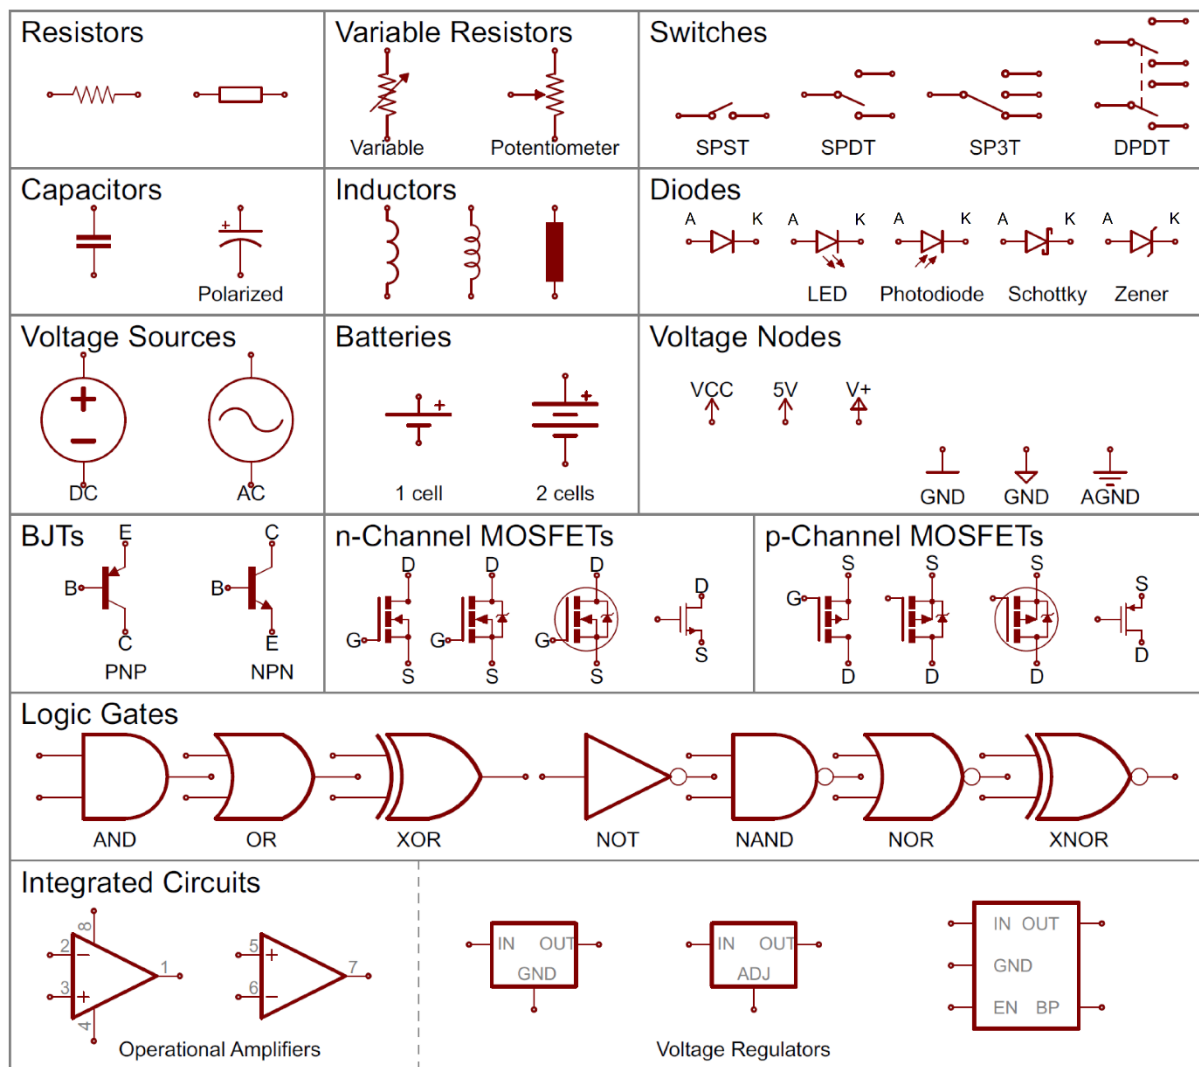

Fig. 1.10 Common symbols
Symbols are used to represent electronic components in a schematic diagram. Most of symbols are universal, however some components may use symbols that slightly different depending on whether the diagram is based on US, EU, or Japan standard. The Fig.1.10 shows some of common symbols.
2. Redraw a schematic diagram of Fig 1.11 using symbols from Fig.1.10 and the description from Table 2. Write down its instance name and its value next to each component.